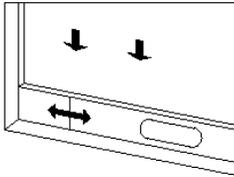
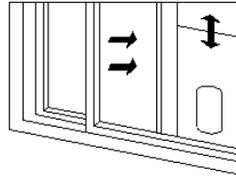

FIGURE 2
FIGURE 3
- Half open the window and mount the window sealing plate assembly to the window (as shown in Fig.2 and Fig.3). Components can be placed in horizontal and vertical direction.